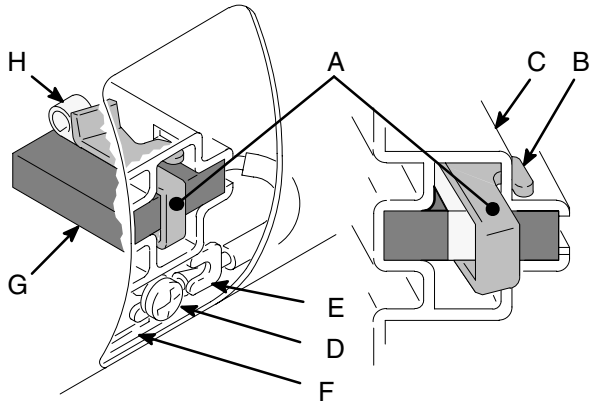

Fig. 5 01227
4. Fig. 5. Push in 110816 spring clip (A) to release hooks (B) from brush holder (C). Pull out spring clip.
5. Fig. 5. Loosen terminal screw (D). Pull brush lead (E) away, leaving motor lead (F) in place. Remove brush (G) and spring (H).
8. Fig. 5. Slide brush lead (E) under washer of terminal screw (D) and tighten screw. Be sure motor lead (F) is connected at terminal screw.